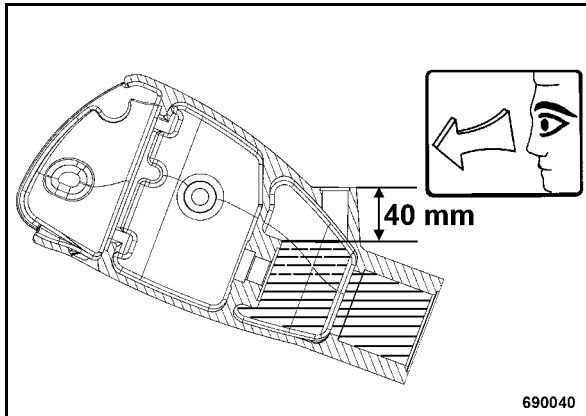

Fig. 62
- Check whether the hydraulic oil level is approx. 40 mm below the filler opening (Fig. 62) (see mark on steering rod head), top up hydraulic oil if necessary.